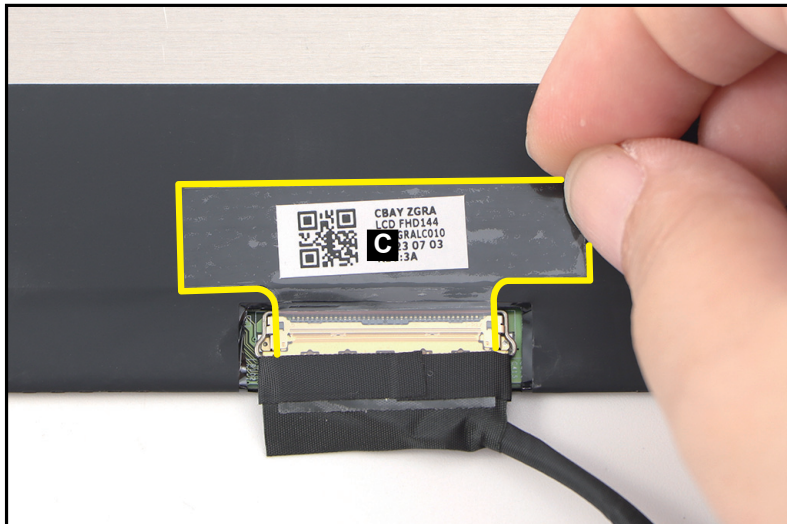

Figure 1-53. LCD Panel Removal
3. Carefully turn the LCD panel over so that the display panel is facing down on a flat surface. Then detach the mylar (C) securing the eDP cable to the LCD panel (Figure 1-53).